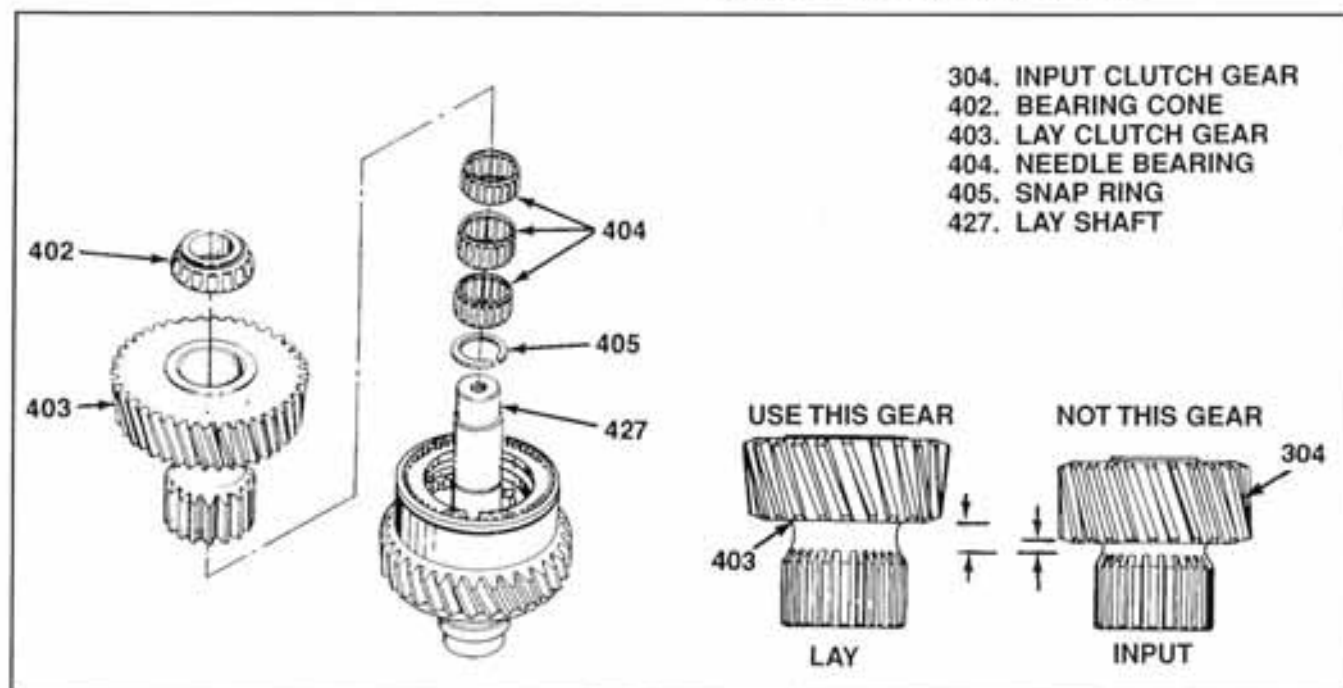

Figure 5-4. Lay Clutch Gear and Bearings
5-7. ASSEMBLY OF CLUTCH GEAR AND BEARINGS. With shaft assembly in holding fixture as described in paragraph 5-5, proceed as follows (see figure 5-4):
1. Install snap ring (405) on lay shaft (427).
2. Select lay clutch gear (403)—not input clutch gear (304) (see figure 5-4). Align splines on clutch discs previously installed and install lay clutch gear (403). This is best done by using a twisting, orbiting motion. Make sure clutch gear is fully installed, engaging all clutch discs. Outside end of gear should be flush to below shoulder on lay shaft (427).
3. Install three needle bearings (404) on lay shaft (427).
4. Position shaft assembly on holding fixture in arbor press. Using drift T-5002, press bearing cone (402) on shaft to seat on shaft shoulder.